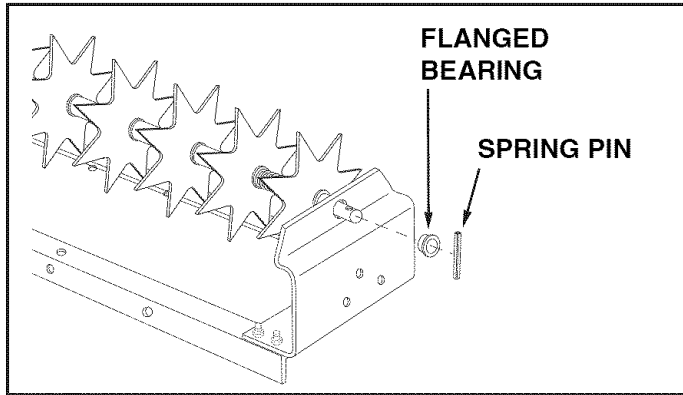

FIGURE 5
- Slide a flanged bearing onto the axle and push it into the hole in the end plate. See figure 5.
- Drive a spring pin into the hole in the axle until the pin just extends through the other side of the axle. The spring pins secure the axle in the frame and should also prevent the axle from rotating. See figure 5.